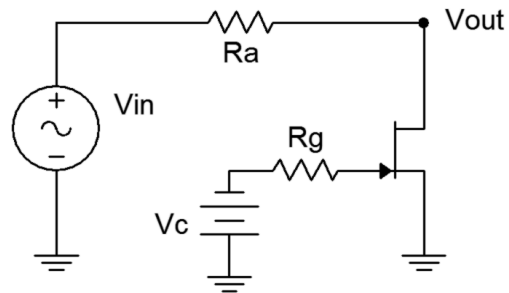

Figure 1
1. Consider the circuit of Figure 1 where V_{in} is a 100 mV peak sine at 1 kHz, $R_a = 4.7 \text{ k}\Omega$ and $R_g = 10 \text{ k}\Omega$. As V_c varies between 0 and $V_{GS(off)}$, the resistance of the JFET varies between a near open and a minimum value of $R_{ds(on)}$. V_{out} is derived from a voltage divider between R_a and the JFET's resistance.
2. Build the circuit of Figure 1 with $R_a = 4.7 \text{ k}\Omega$ and $R_g = 10 \text{ k}\Omega$. Set V_{in} to 100 mV peak at 1 kHz. Set the control voltage, V_c , to 0 VDC. Measure the signal at V_{out} using the oscilloscope and record the value in Table 1. Also, using the voltage divider rule, determine the effective resistance of the JFET.